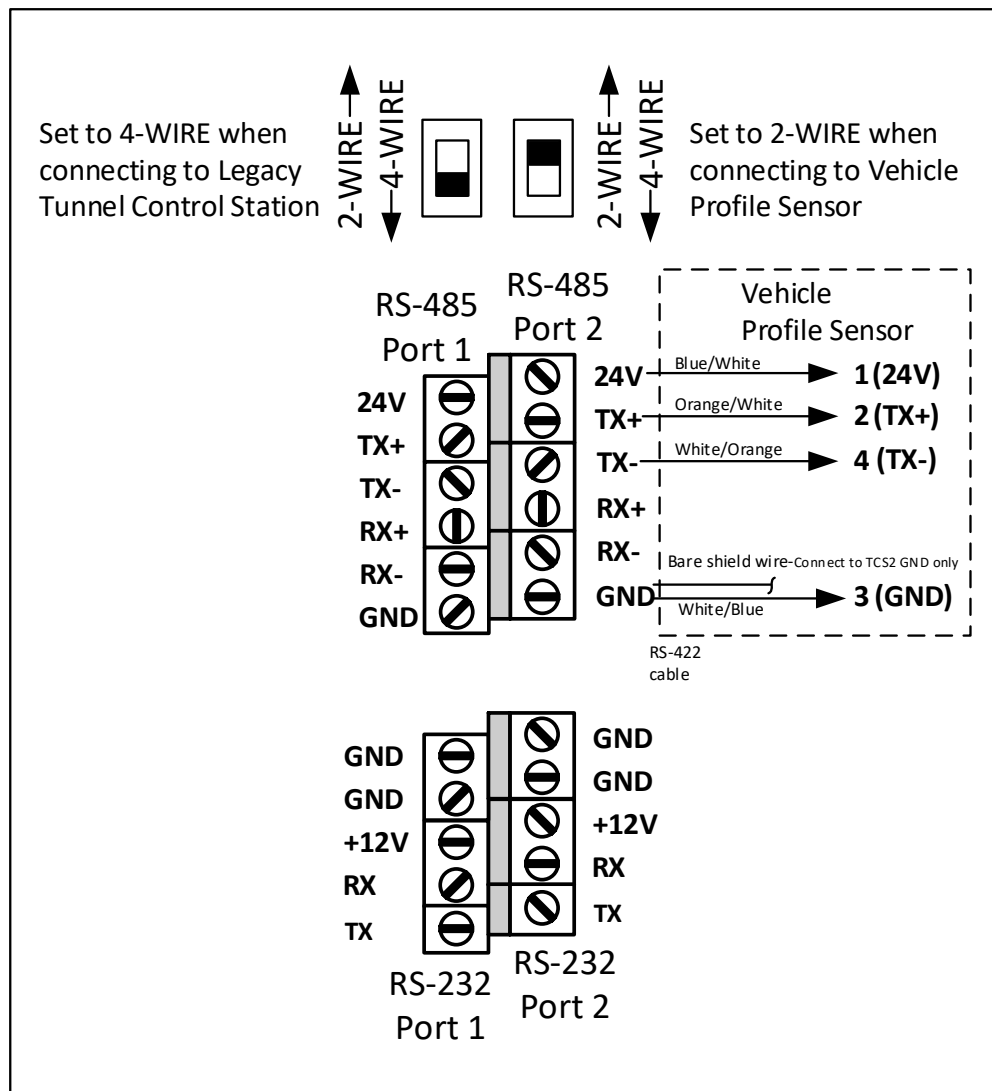

Figure 20: TCS2 to Vehicle Profile Sensor Wiring
- See Figure 20: **TCS2 to Vehicle Profile Sensor Wiring.**
- See Figure 20: TCS2 to Vehicle Profile Sensor Wiring.